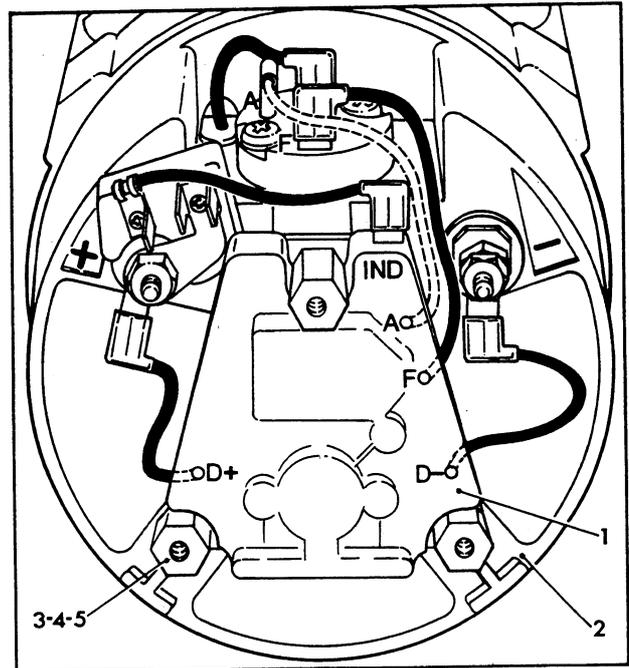

Fig 4 Slip ring end shield and regulator
Position the regulator (1) Fig 4, on the slip ring end shield (2) with wiring leads innermost and align the regulator locating holes with those on the three bosses on the slip ring end shield. Secure with flat washer (3) spring washer (4) and pillar (5). The Pillars to be tightened to 1,7 to 2,3 Nm (15 to 20 lbf in) torque value.
2 When the tests are satisfactory fit the regulator and connect the leads as shown in Fig 4.